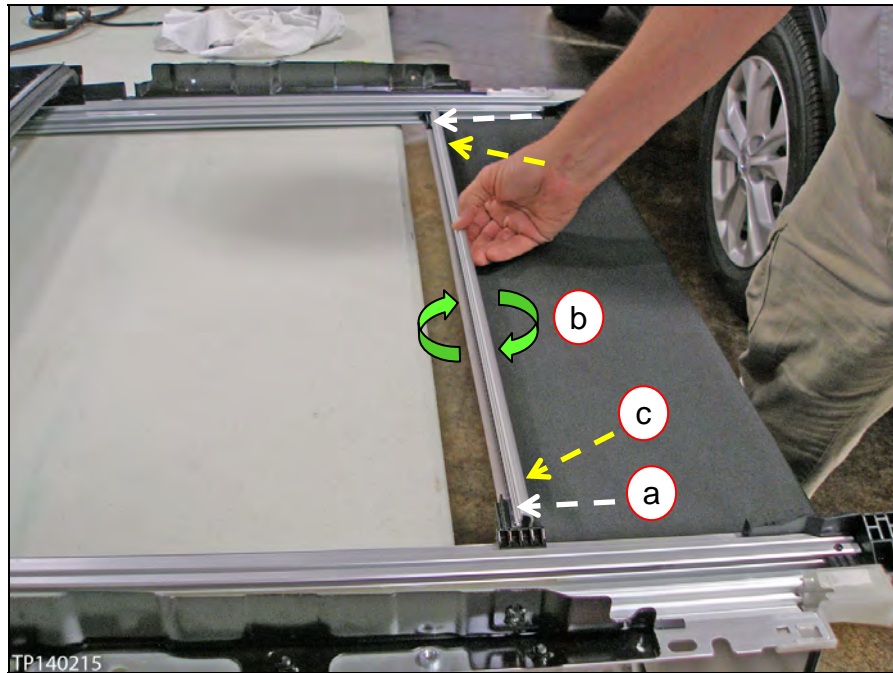

Figure 16
5. Fasten the front bar in place (see Figure 16).
- c. Snap in place both ends of the front bar on each sunshade coupling by pulling back on the front bar where shown in Figure 16.